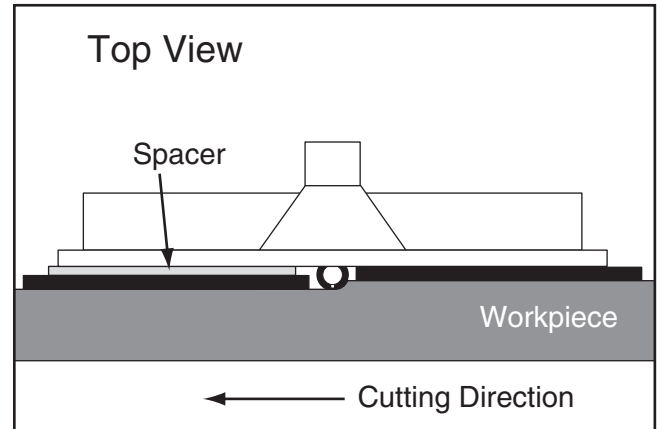

Figure 52. Example of edge jointing operation.
8. Connect router table to power, then perform cut (see **Figure 52**).